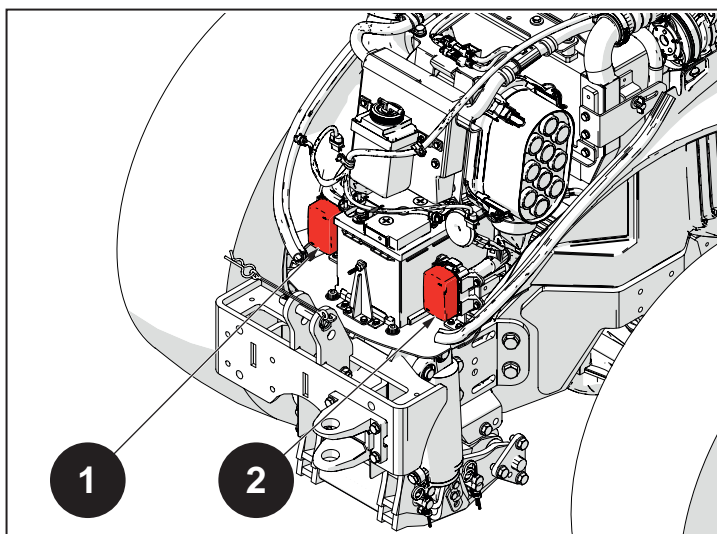

Fig. 6.54
Functions of fuse box (1), figure 6.54:
Functions of fuse box (2), figure 6.54: